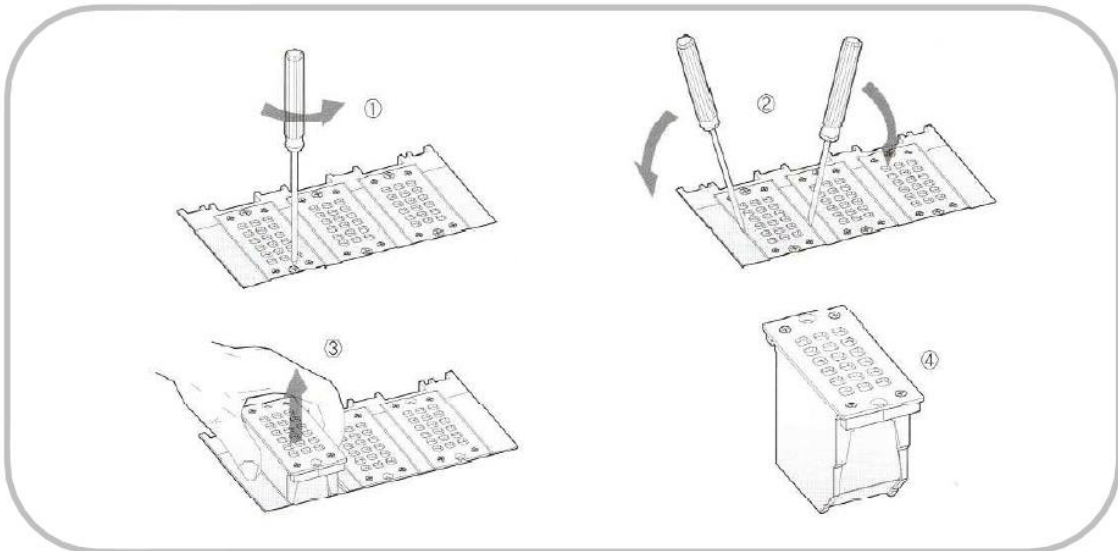

Fig. 7. Separate procedure of Arc chamber
2. Separate the arc chamber by lifting it up using two screw drivers as shown in fig. 7 below.